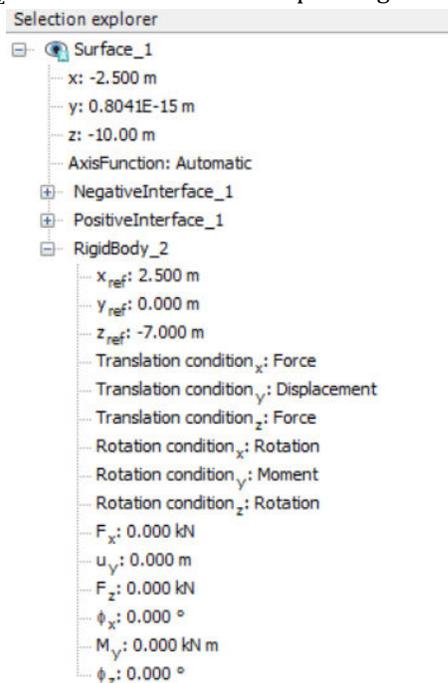

Figure 46: Rigid body in the Selection explorer
16. As displayed in Figure 46 (on page 67) set the Translation condition_y to **Displacement**, the Rotation condition_x and Rotation condition_z to **Rotation**. Their corresponding values are $u_y = \phi_x = \phi_z = 0$.